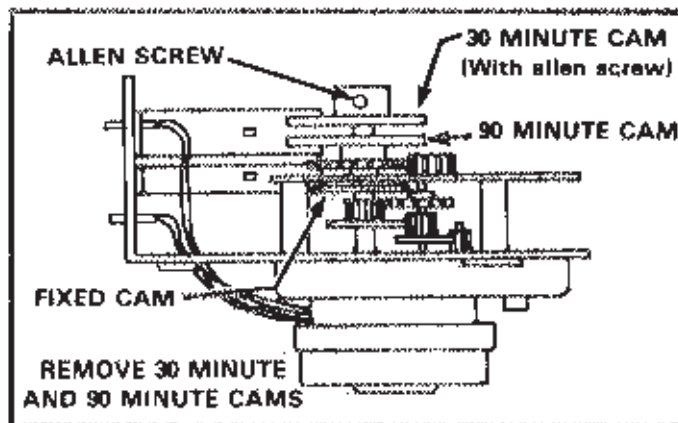

FIGURE 7
- 4 - Loosen allen screw and remove both cams as shown in figure 7.